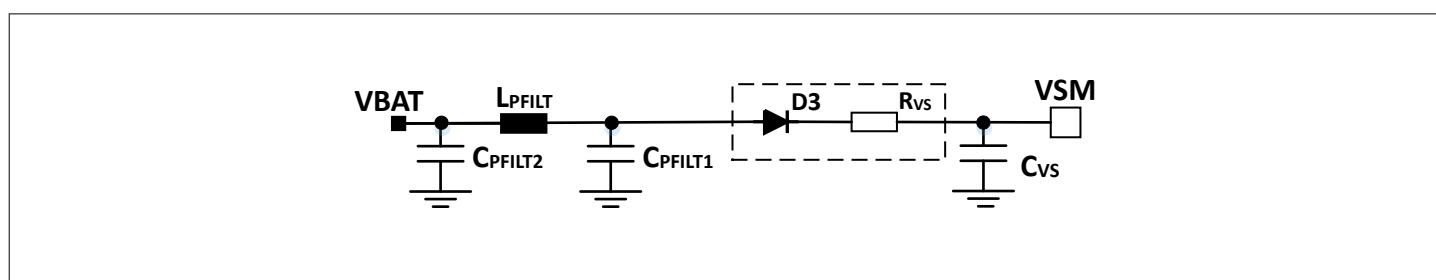

Figure 5 Reverse polarity for 48 V applications
- For 48 V applications, a simple reverse polarity protection including one diode and one resistor can also be used. Refer to Figure 5
For 24 V applications the solution in Figure 5 is not recommended due to the voltage drop of the resistance.